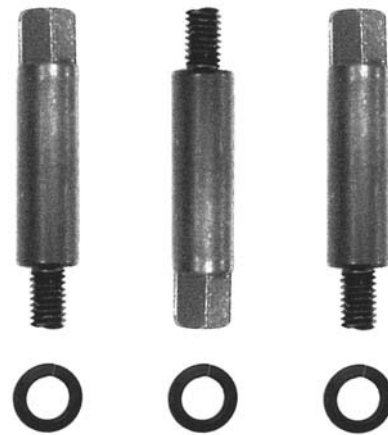

Figure 2
1. Place bed assembly (A) on top of stand (B). Be sure the identification label (C) on the bed faces the same direction as the switch (D) on the stand.
2. Line up two holes in the stand top (E) with holes in the bed assembly by viewing through the access door in rear side of the stand.
3. Attach stand to bed assembly by using two 3/8" lock bolts and lock washers (Figure 2). Hand tighten only at this time.
4. Line up the third hole in the stand (F) with the hole in the bed assembly by viewing through the dust chute (G).
5. Install the third 3/8" lock bolt and lock washer through the dust chute (G) to secure the bed to the stand.